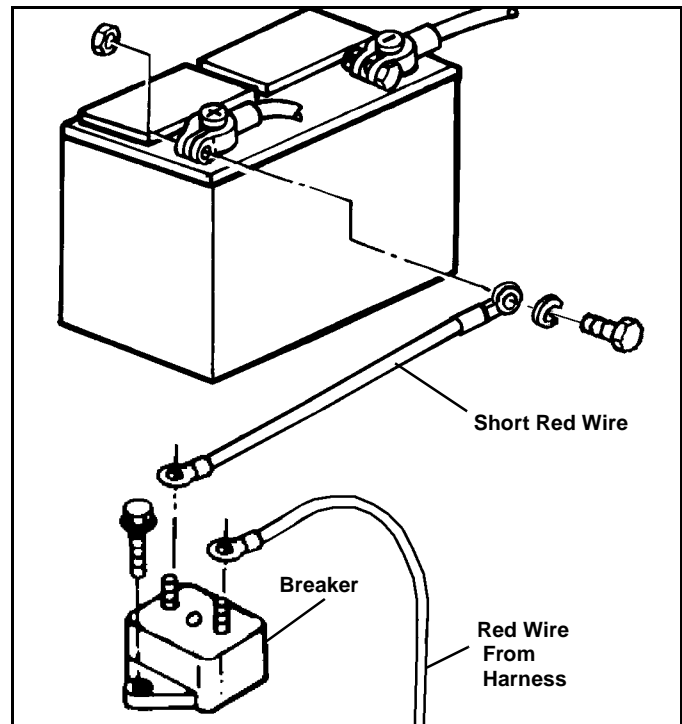

Figure 1-3
8. Locate short red wire (#96102362) with two ring terminals. Attach the small ring terminal to the copper colored post marked BAT on the breaker. Attach the other, large ring terminal to the battery positive terminal. (See Figure 1-3).